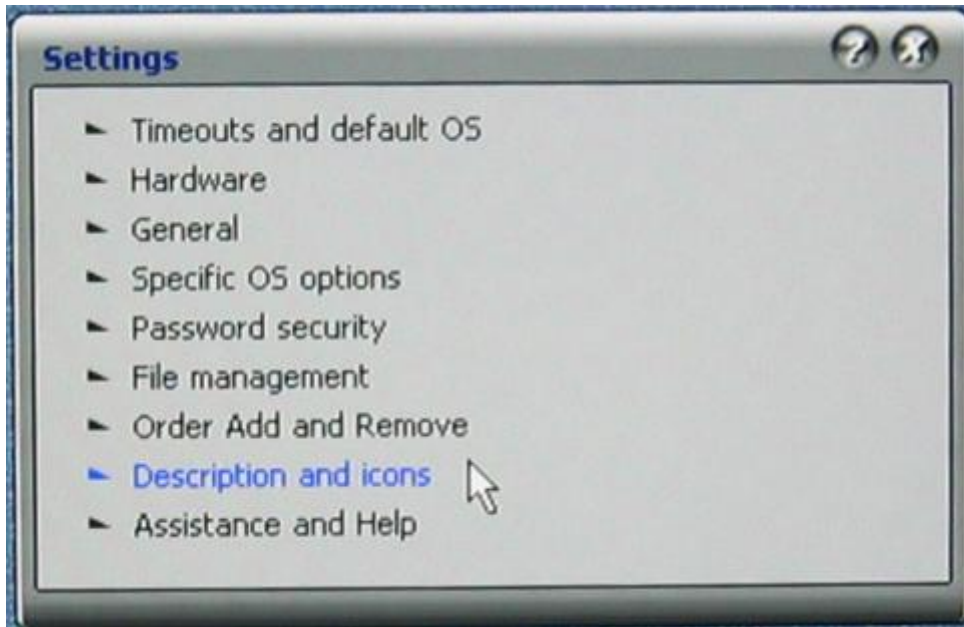

Figure 4-13 Description and Icons
3. From the 'Settings' window, select 'Descriptions and Icons' as illustrated in Figure 4-13.